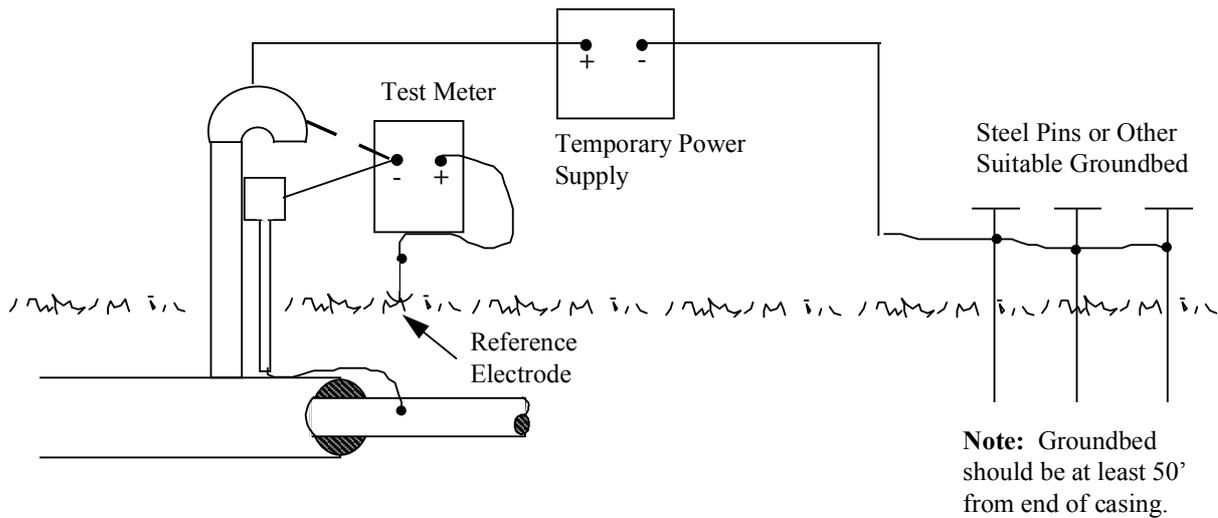

Fig. 1
- A. Depolarize the casing by using a temporary, variable DC power source, a temporary anode bed, and a connection to the casing (See Figure 1). The positive lead wire from the power source is connected to the casing and the negative is connected to the anode bed. The anode bed should be at least 50 feet away from the casing. Activation of the circuit will drive the potential of the casing in a positive direction.